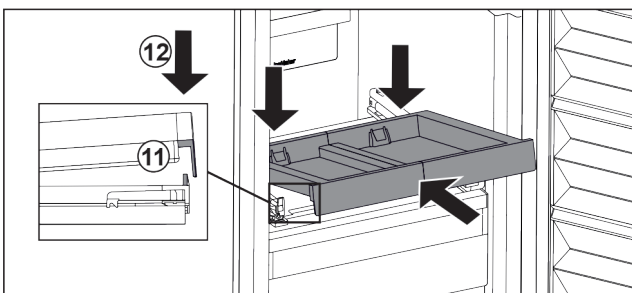

Fig. 173
- ▶ Slide in at an angle. Make sure that the stop is behind the lug on both sides. Fig. 173 (11)
- ▶ Lower the pull-out board at the front. Fig. 173 (12)